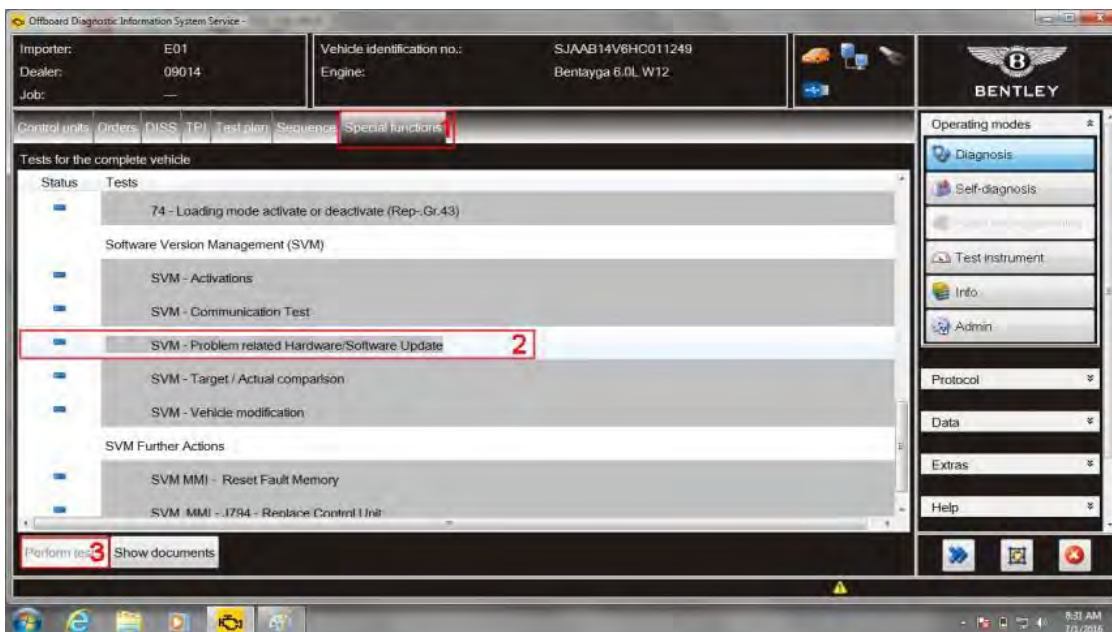

Figure 2
8. Referring to Figure 2, Select Specialfunctions (1), Select SVM – Problem related Hardware/Software Update (2), Select Perform test (3)